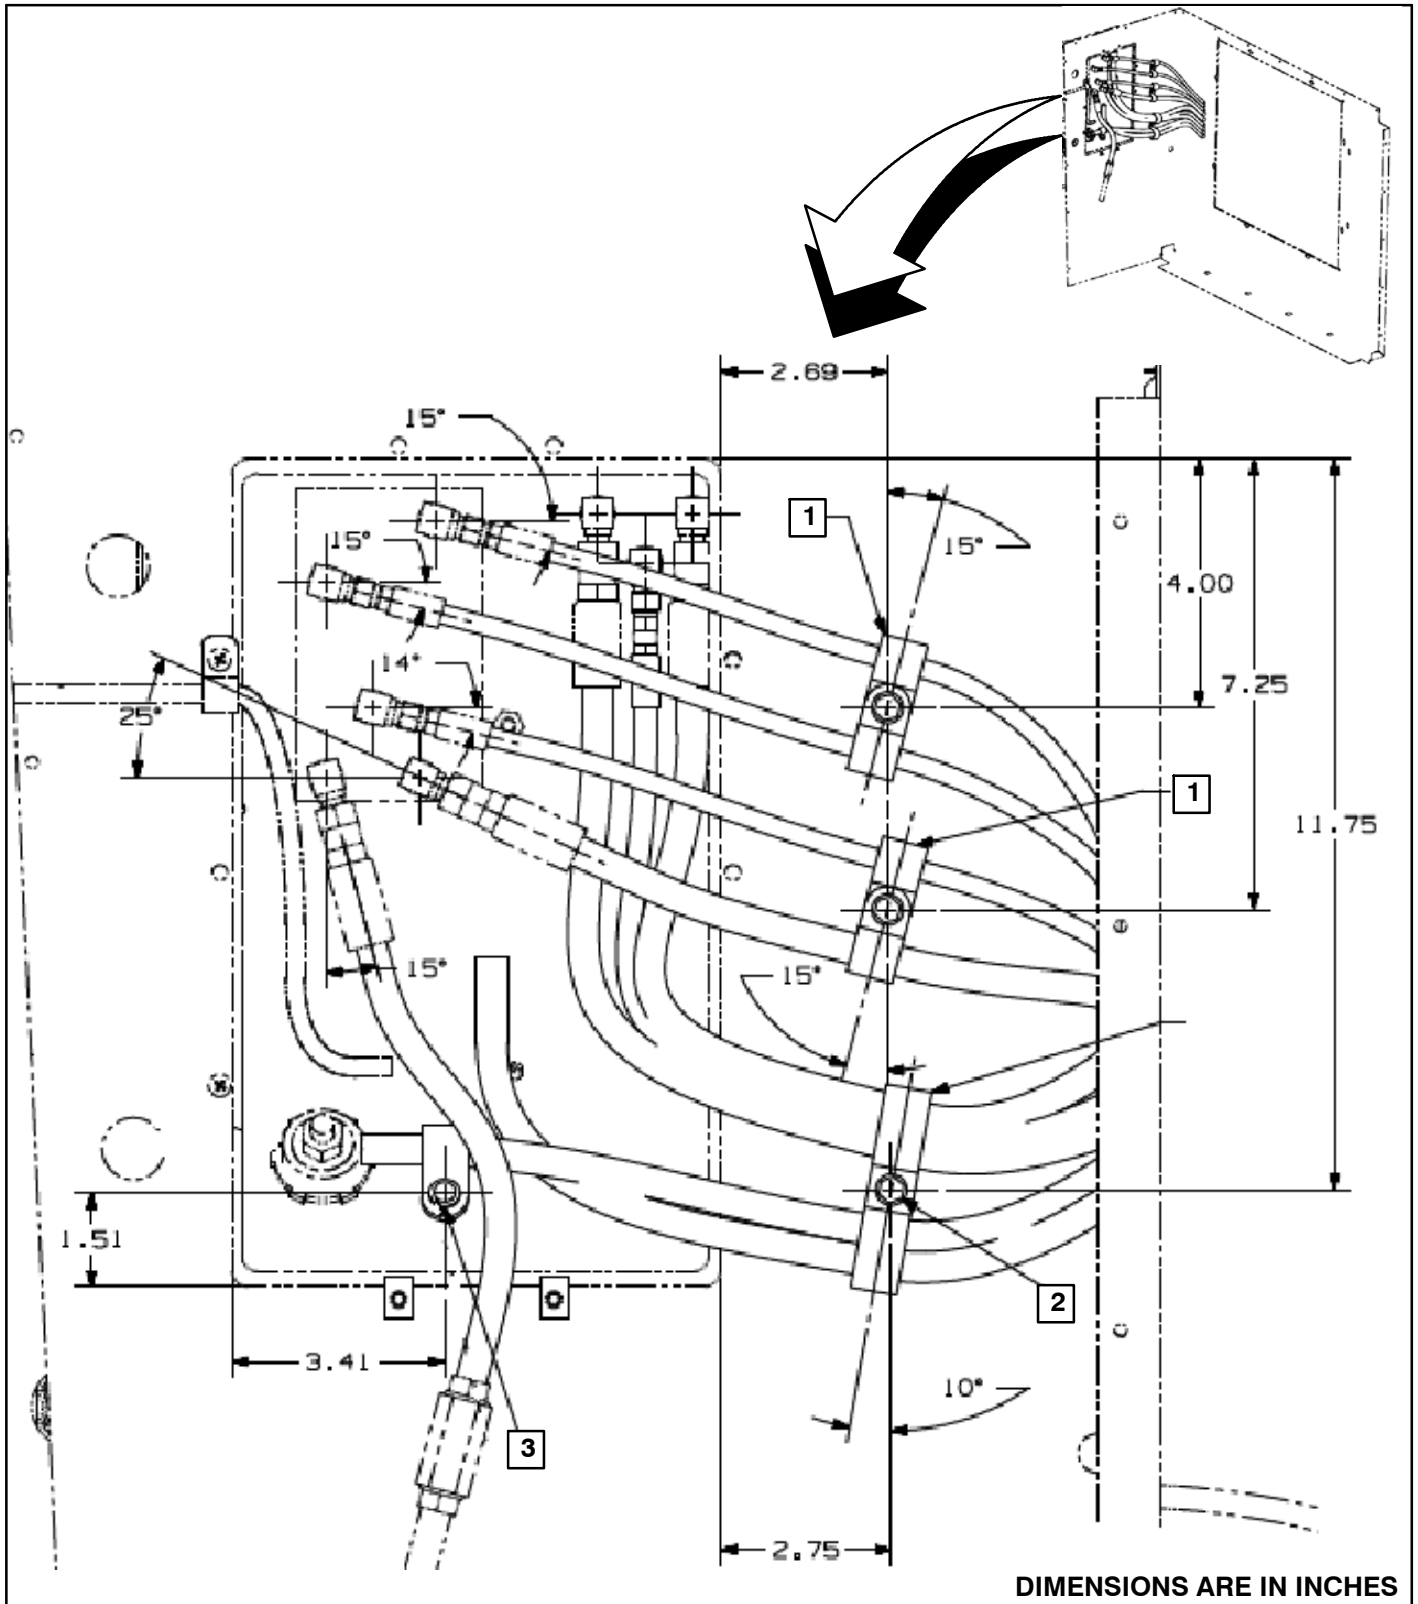

Figure 1.
5. Locate the fittings shown in Figure 1. Orient the harnesses and cables as shown in Figure 1.
7. Using a 13/64 inch drill bit and a drill bit stop (set to the width of the compartment wall), drill three (3) holes at the dimensions shown in Figure 1.
| ITEM | FIGURE 1 DESCRIPTION |
8. Install the clamps, p/n 19-4-32, and, p/n 19-4-48, on the hoses as shown in Figures 1 and 2. Using screws, p/n 19-4-176, and nut, p/n 19-3-2, secure the clamps to the compartment wall.
- 9. Using a 11/64 inch drill bit and a drill bit stop (set to the width of the compartment wall), drill a hole at the dimensions (1.51 x 3.41) shown in Figures 1 and 5. Secure the existing clamp to the compartment wall using screw, p/n 19-1-619, and washer, p/n 19-2-7.